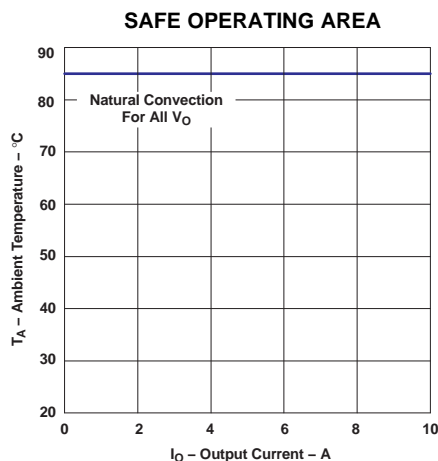

Figure 8.
- (2) The temperature derating curves represent the conditions at which internal components are at or below the manufacturer's maximum operating temperatures. Derating limits apply to modules soldered directly to a 100 mm x 100 mm double-sided PCB with 2 oz. copper. For surface mount packages (AS and AZ suffix), multiple vias must be utilized. Please refer to the mechanical specification for more information. Applies to Figure 8.